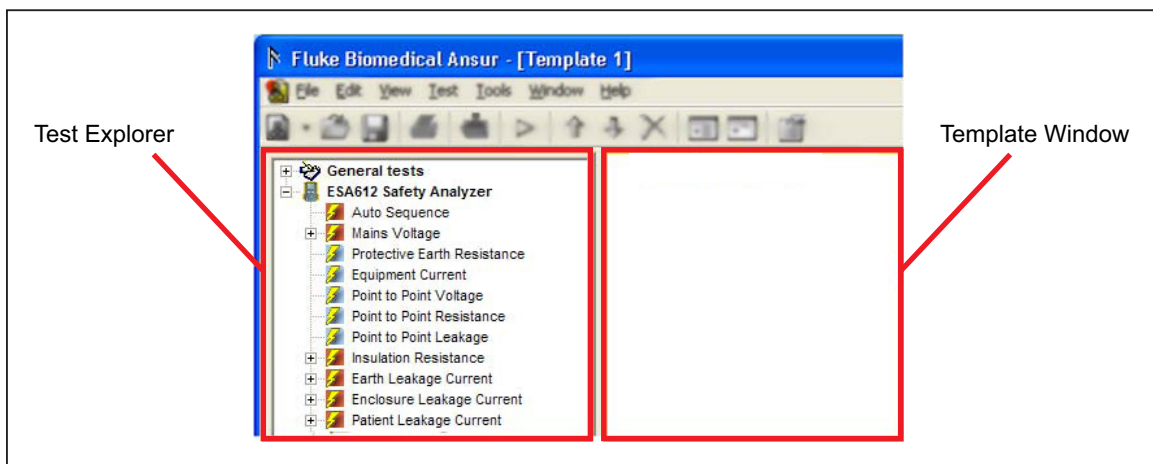

Figure 3-19. Test Explorer Window
2. In the test explorer window, click on the plus button next to the ESA612 Safety Analyzer entry to expand the electrical safety test entries for this analyzer. See Figure 3-19.